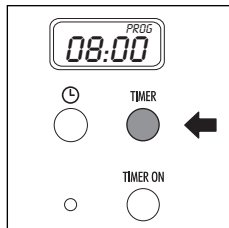

fig. 8
- 1 Set the time of day when you want the coffee maker to be ready and preheated. Press the TIMER button and hold it down until the time required is displayed as shown in fig. 8 (example 8:00).